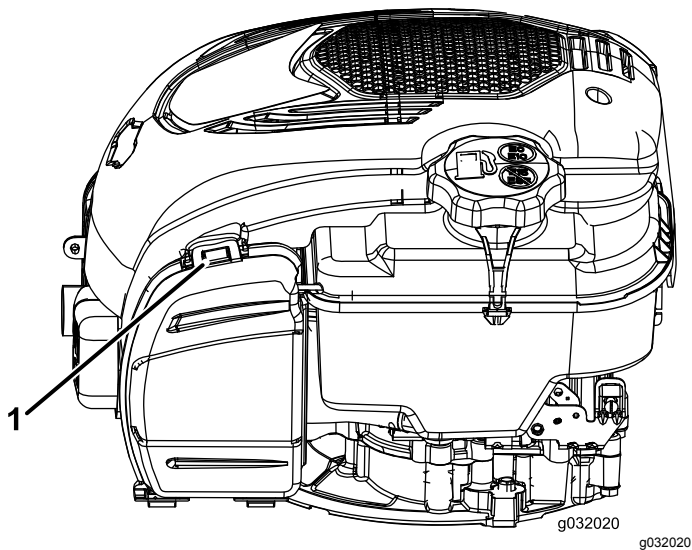

Figure 19
- 1. Pull the tab to open the air-filter cover (Figure 19).